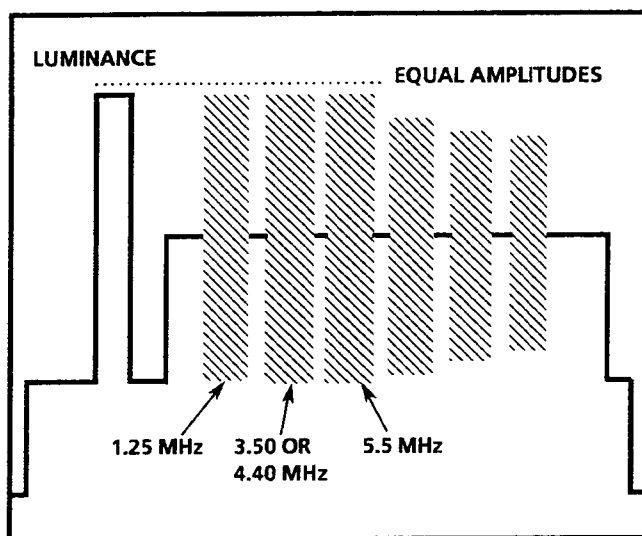

Fig. 5-20. Using high range multiburst signal to set flatness.
- c. ADJUST — C694 (Pix Mon Res) for flat display (even tops of the first three multiburst packets) on the test oscilloscope. See Fig. 5-20.